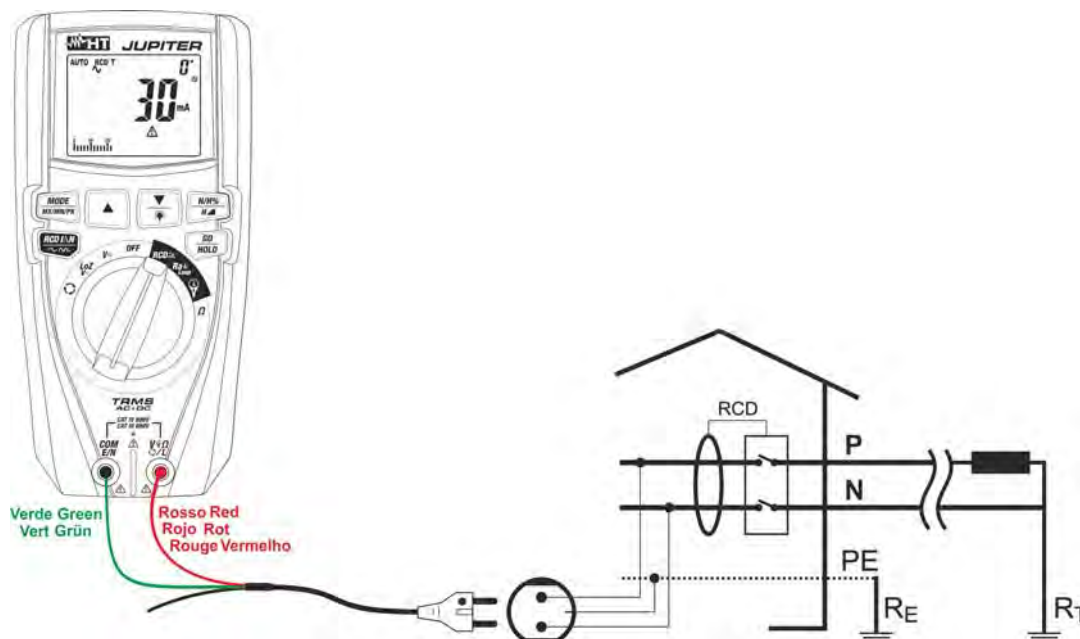

Fig. 29: Use of the instrument for RCD test on single-phase system with cable provided with Schuko plug
6. In case the cable with Shuko plug is used, insert the red conductor into input terminal **V $\Omega$ L** and the green conductor into input terminal **COM/E/N** and connect the instrument to the system to be tested (see Fig. 29). The presence of phase-to-earth voltage is shown in the bargraph